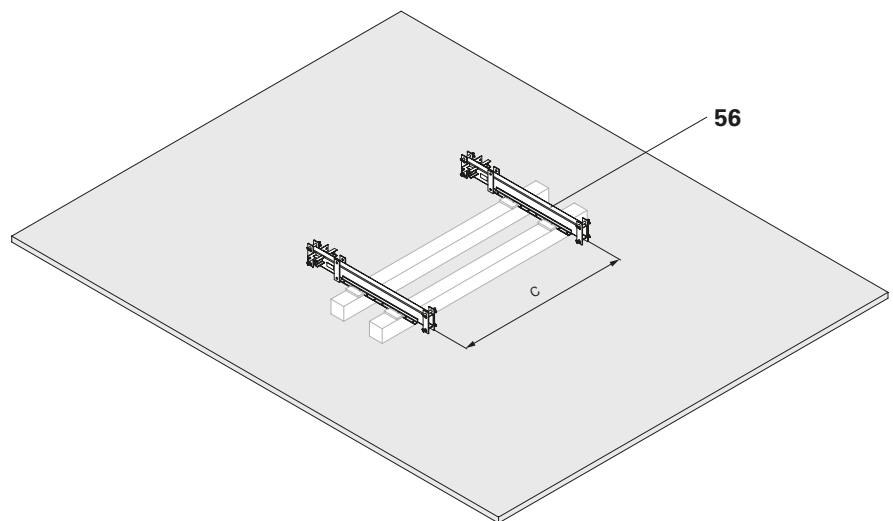

Fig. B10.06
1. Place the Finishing Platform Vertical 3300 ACS-G (**56**) on the squared timbers while observing the console bracket spacing  $c$ . (Fig. B10.06)